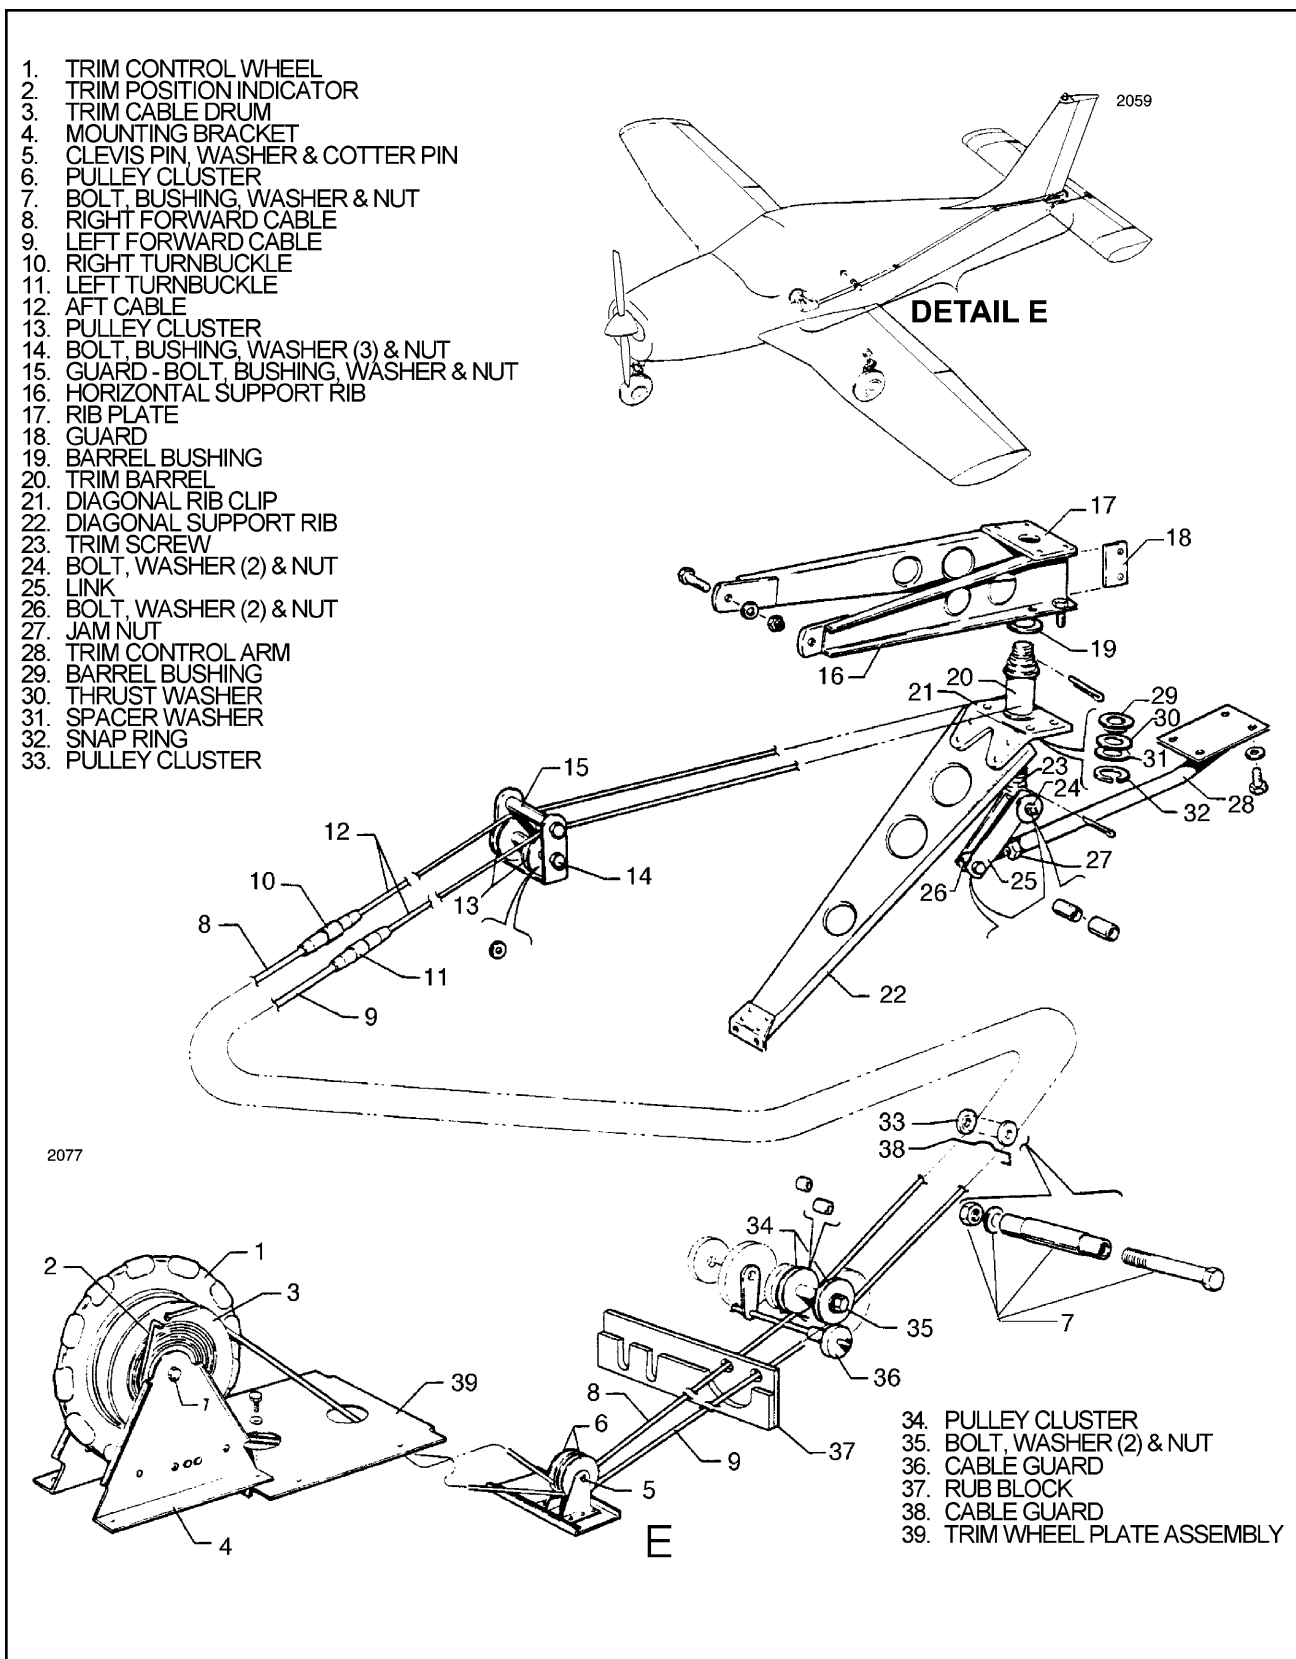

Figure 5-13. Stabilator Trim Controls
### 5-21. REMOVAL OF **FORWARD** STABILATOR TRIM ASSEMBLY. (Refer to Figure 5-13.)
- 5-22. INSTALLATION OF *FORWARD* STABILATOR TRIM ASSEMBLY. (Refer to Figure 5-13.)
5-23. REMOVAL OF *AFT* STABILATOR TRIM ASSEMBLY. (Refer to Figure 5-13.)
5-24. INSTALLATION OF *AFT* STABILATOR TRIM ASSEMBLY. (Refer to Figure 5-13.)
### 5-25. RIGGING AND ADJUSTMENT OF STABILATOR TRIM. (Refer to Figure 5-13.)